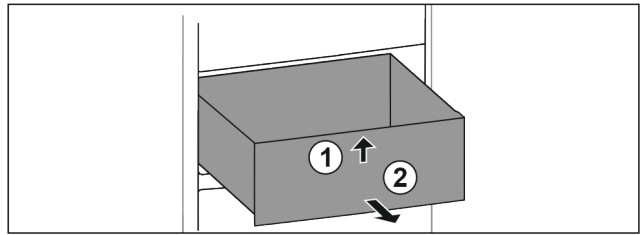

Fig. 92
- ▶ Lift up drawer at the front. Fig. 92 (1)
- ▶ Remove drawer to the front. Fig. 92 (2)